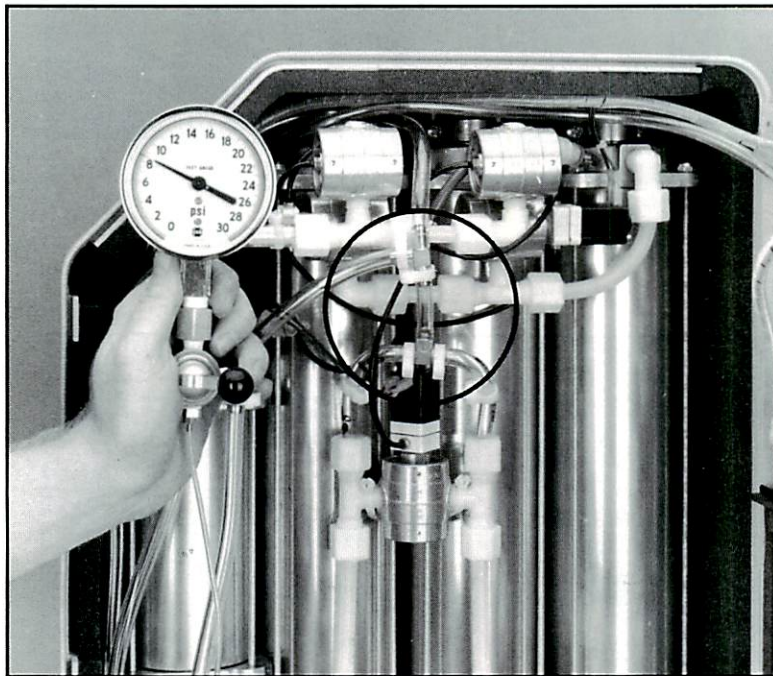

Figure 3-2: Pneumatic Test Kit Connection/Testing
3. Remove clamp and product tank tubing from tee fitting. Tee in 1/4" ID tubing from pneumatic test kit (Figure 3-2).
8. Set selector switch on test kit to PROD (to the right). Verify the product canister pressure is between 6.5 to 11.0 PSI (Figure 3-2). Although there is not a "balance" of pressure in the product tank, the pressure on two consecutive cycles should not vary by more than 4.0 PSI.